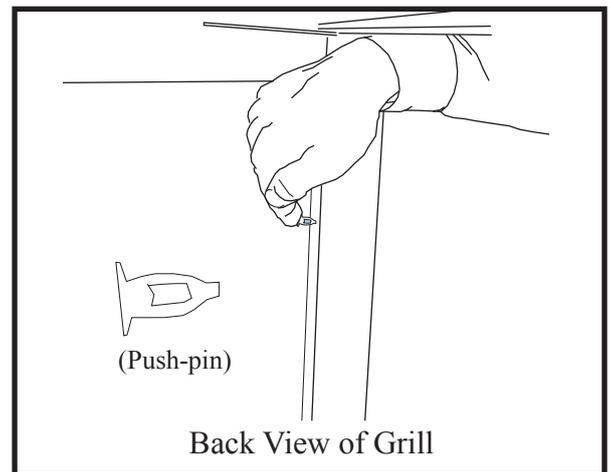

Fig. 5
**Required:** Front Panel; (4) Plastic Push-pins
Position the Front Panel between the front grill legs—with Lighting Instructions at top-front—aligning the two (2) holes in the side flanges of the panel with those in the legs. Push a pin into each hole as far as possible. It may be necessary to lightly tap the pins. See Fig. 5.